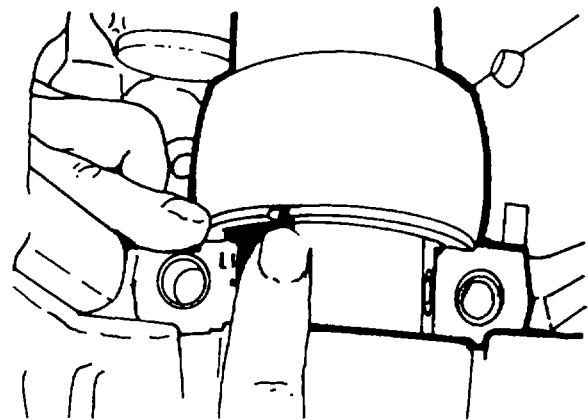

Figure 5-31. Positioning Thrust Rings
32. The end clearance must be within the range stated in the specifications (table 4-3). If necessary, dismantle the bearing cap and fit suitable thrust ring halves. With the new thrust ring halves, press out the existing ones at the bearing web (figure 5-31).